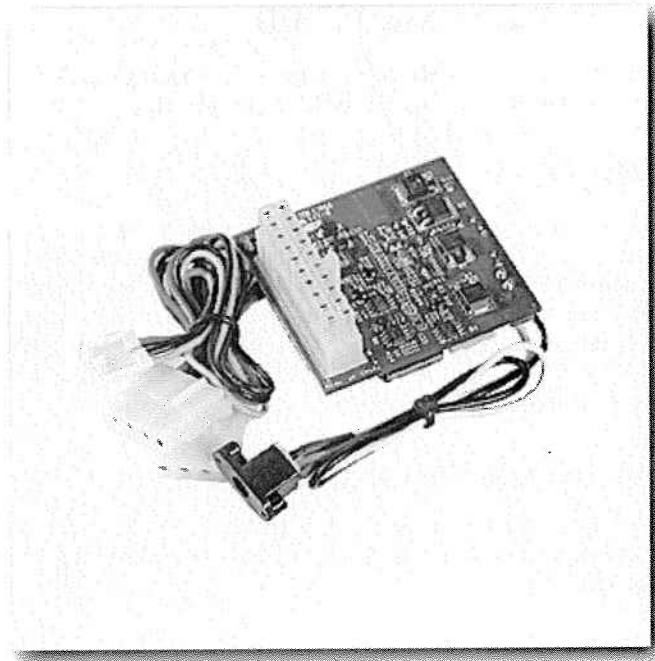

FIGURE 12-7: Mini-Box power supply.
- The Mini-Box PW series AC power supply, for when the computer is in your car, shown in Figure 12-7 (~\$50). Make sure you purchase the appropriate model for your processor and motherboard type (see www.mini-box.com for details).